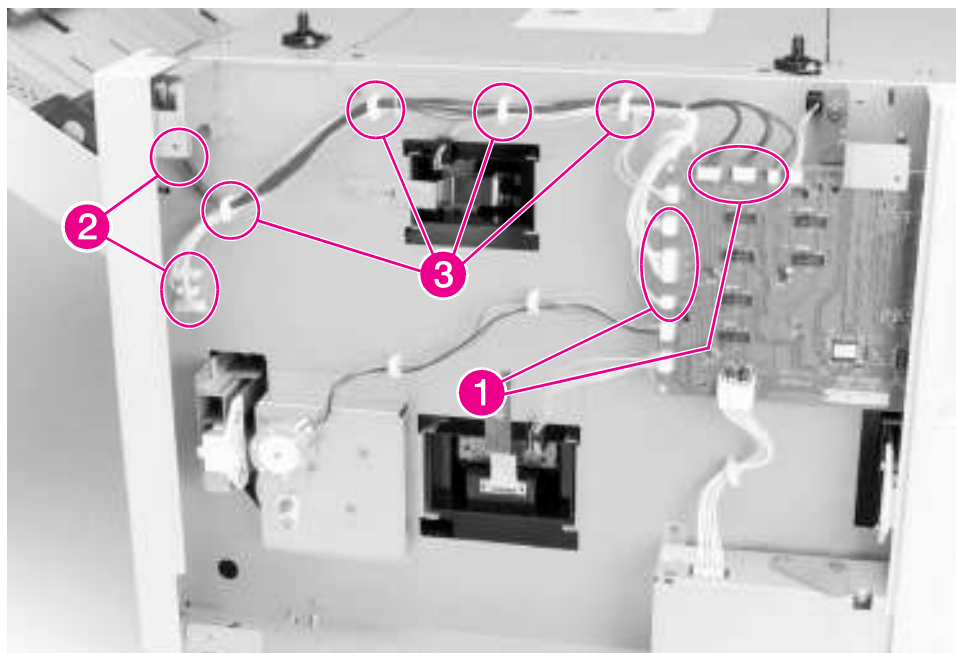

Figure 6-68 2000-sheet Input Tray Main Cable Harness
- 2** Locate and disconnect the 6 cable connectors that connect the Main Cable Harness to the Controller PCA on the 2000-sheet Input Tray (figure 6-68, callout 1).